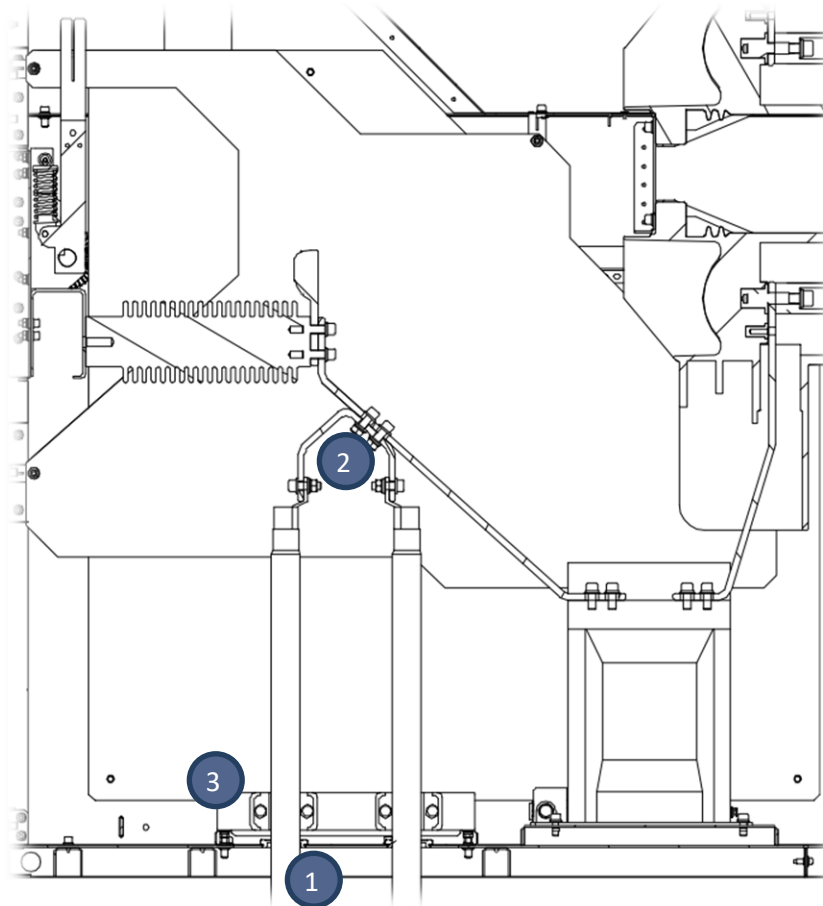

Fig.7.8. Bottom gland plate
The cables are laid through the bottom gland plate (refer to Fig.7.8).
- Insert the cables through the designated openings. Refer to Fig.7.8, item 1.
- Connect the cable lugs to the designated busbars. Refer to Fig.7.8, item 2.
- Secure the cables with the cable clamps. Refer to Fig.7.8, item 3.